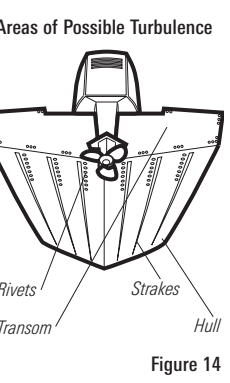

Figure 14
- The best way to locate turbulence-free water is to view the transom while the boat is moving. This method is recommended if maximum high-speed operation (up to 65 mph) is a high priority. If this is not possible, select a location on the transom where the hull forward of this location is smooth, flat, and free of protrusions or ribs (Figure 14).